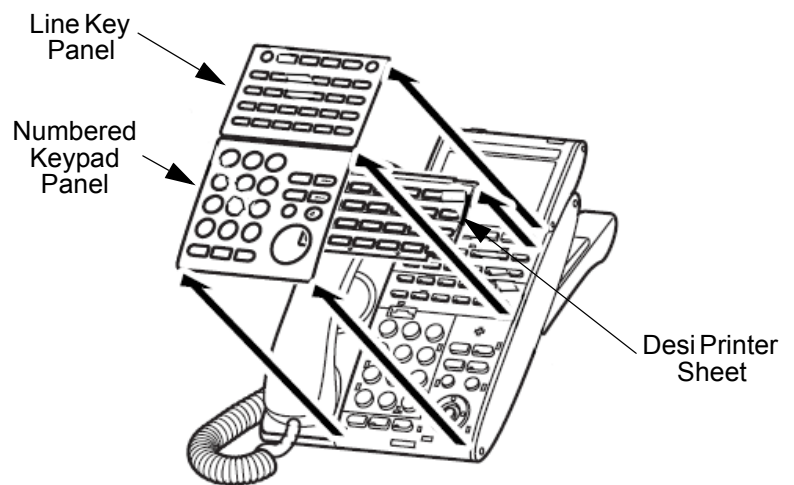

Figure 5-53 Remove Plastic Panels
1. Remove the plastic panels. (Refer to paragraph Figure 5-53 Remove Plastic Panels.)